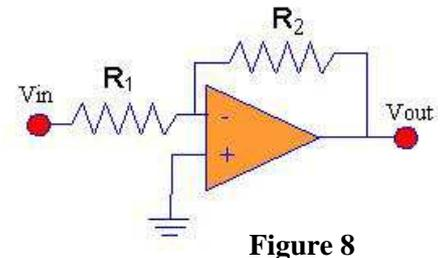

Figure 8
- 1- Construct the Op-Amp circuit as shown in Figure 8 using **$R_1 = 1K\Omega$ and $R_2 = 2.2K\Omega$** .
- 4- Calculate the voltage gain A_v . **Figure 8** 5- What is the phase shift between the input and the output signals?